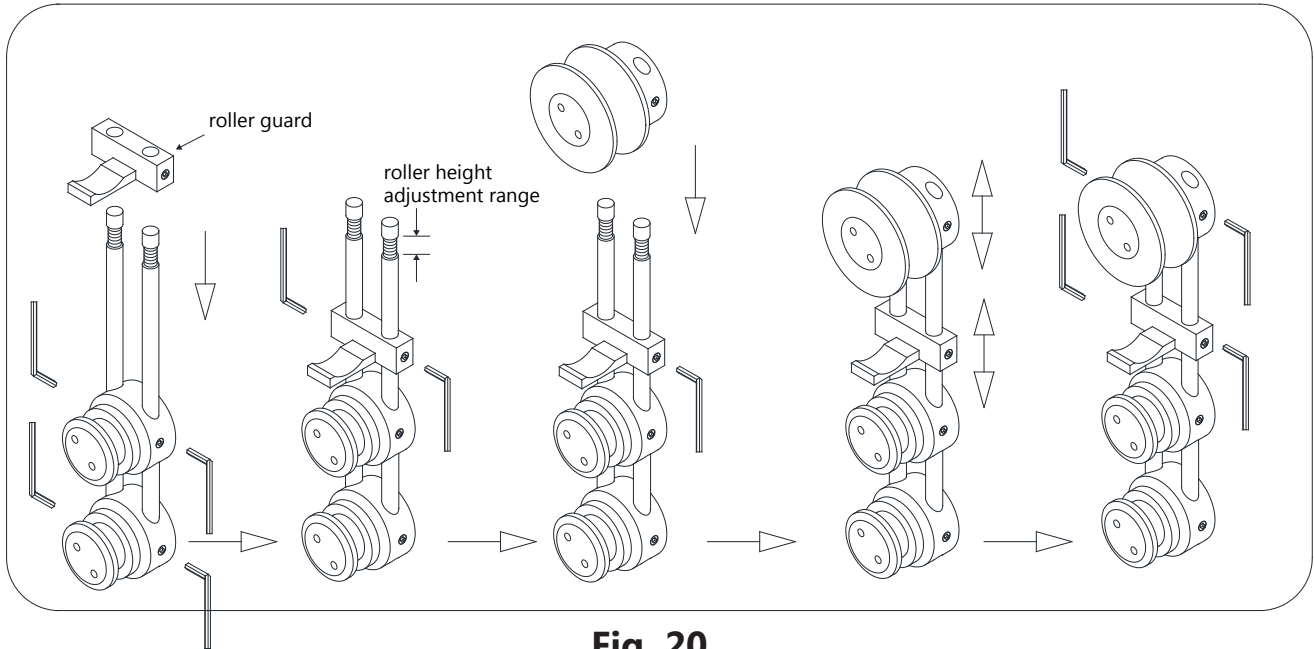

Fig. 20
17. If necessary, the door glass can be adjusted to create a better seal with the wall. The **Bumper Seal Strip (#13)** must be installed on the Door Glass before making any adjustments. Use the set screws to raise or lower the wheels. **Fully tighten all set screws after all adjustments are made.** (Fig. 20)